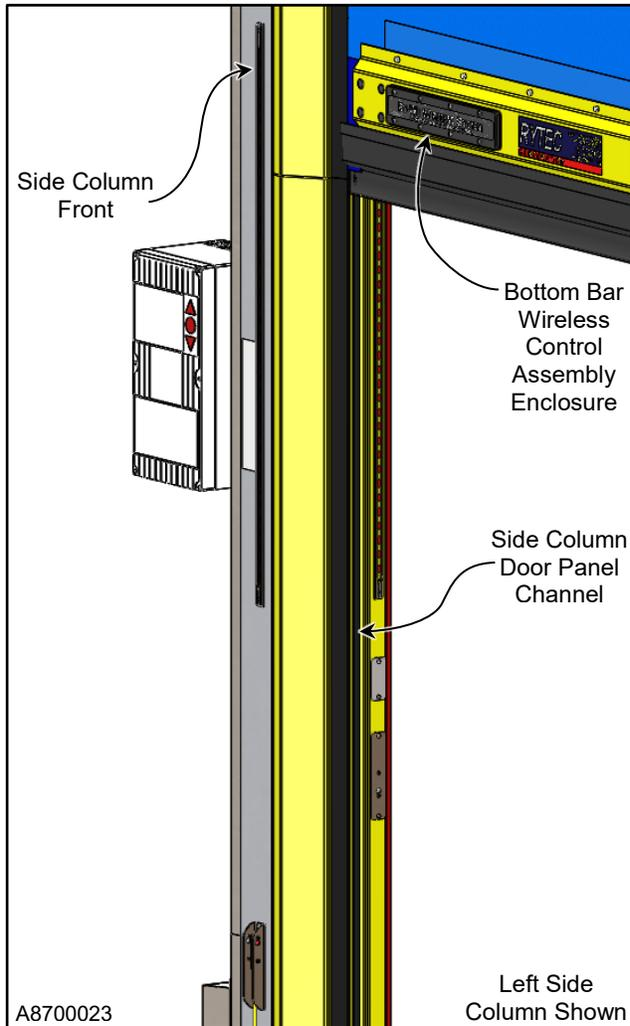

Figure 45
1. Move the door panel to the fully closed position or whatever height is preferable for accessing the bottom bar wireless control assembly enclosure. (See Figure 45)